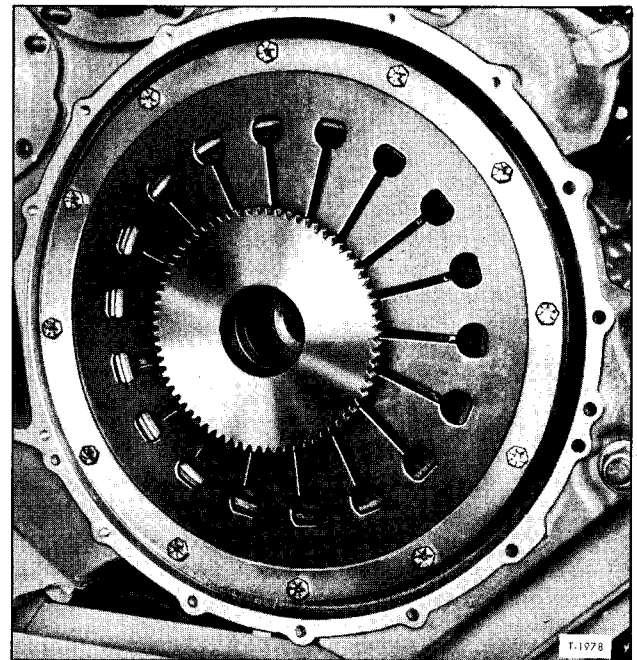
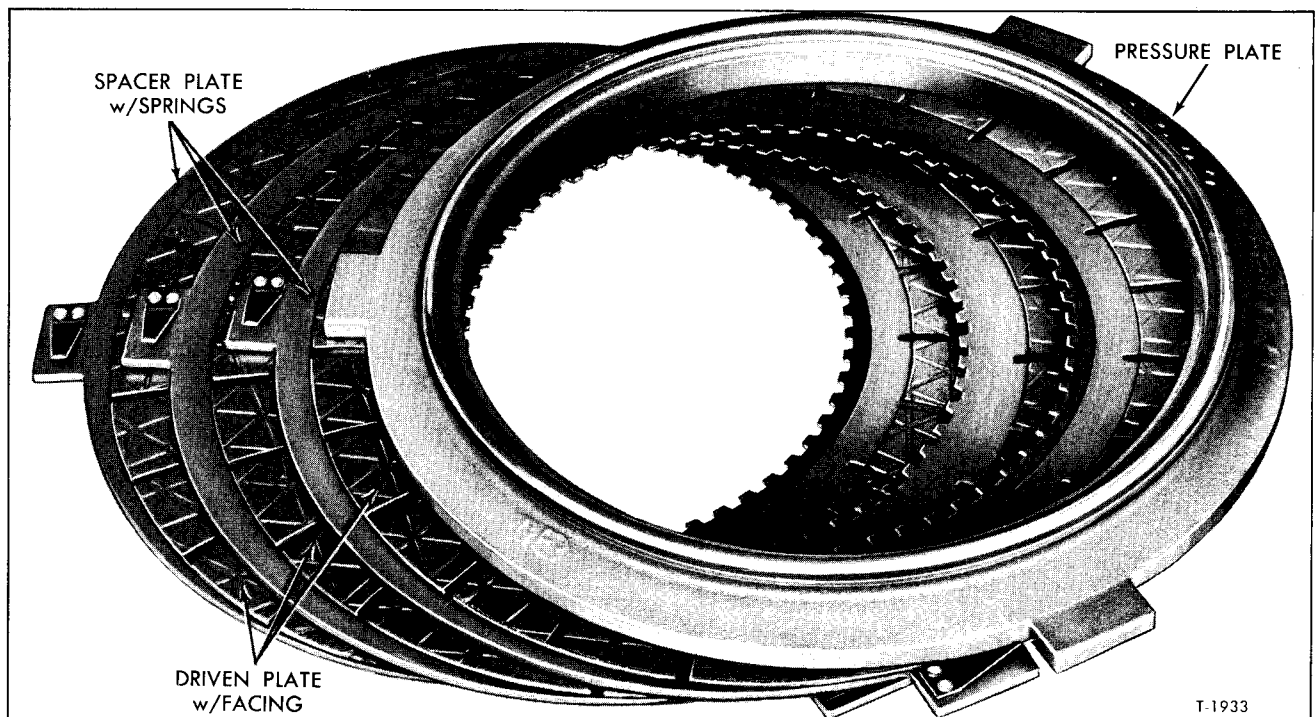

Figure 7—Clutch Cover Plate, Diaphragm Spring, and Oil Pump Drive Gear Installed
Figure 8—Spacer Plates, Driven Plates, and Pressure Plate Assembly Sequence
2. Refer to figure 8 and install spacer plate (6), and driven plate with facings (8) until three each are assembled over drive flange (32) and into flywheel. NOTE: Leaf springs on spacer plates are toward transmission as illustrated in figure 3.
4. Install pressure plate (26) in flywheel and against driven plate facings (8).
5. Install previously assembled diaphragm spring (9) and release mechanism with cover plate (28) to flywheel and secure with twelve cap screws (27) as illustrated in figure 7. Tighten cap screws evenly and alternately to torque specified at end of this section.